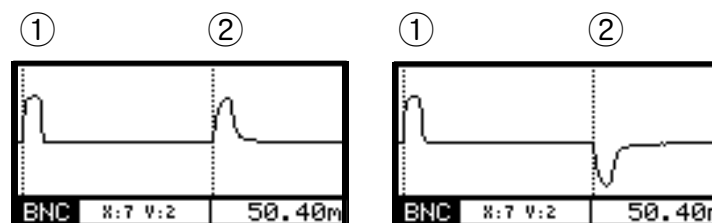

Figure 9. Waveforms for Open and Shorted Cables
The changes in the characteristic impedance are often caused by open or shorted cables. Figure 9 shows the waveforms of the signals measured by the tester when a pulse is initiated into two cable conditions. Position ① represents where the pulse signal is applied to the cable, and the Position ② represents where the reflected signal is, from open or shorted cables. In an open cable, both the initial pulse and its reflected signal have the same polarity while the inverse polarity occurs in a shorted cable.